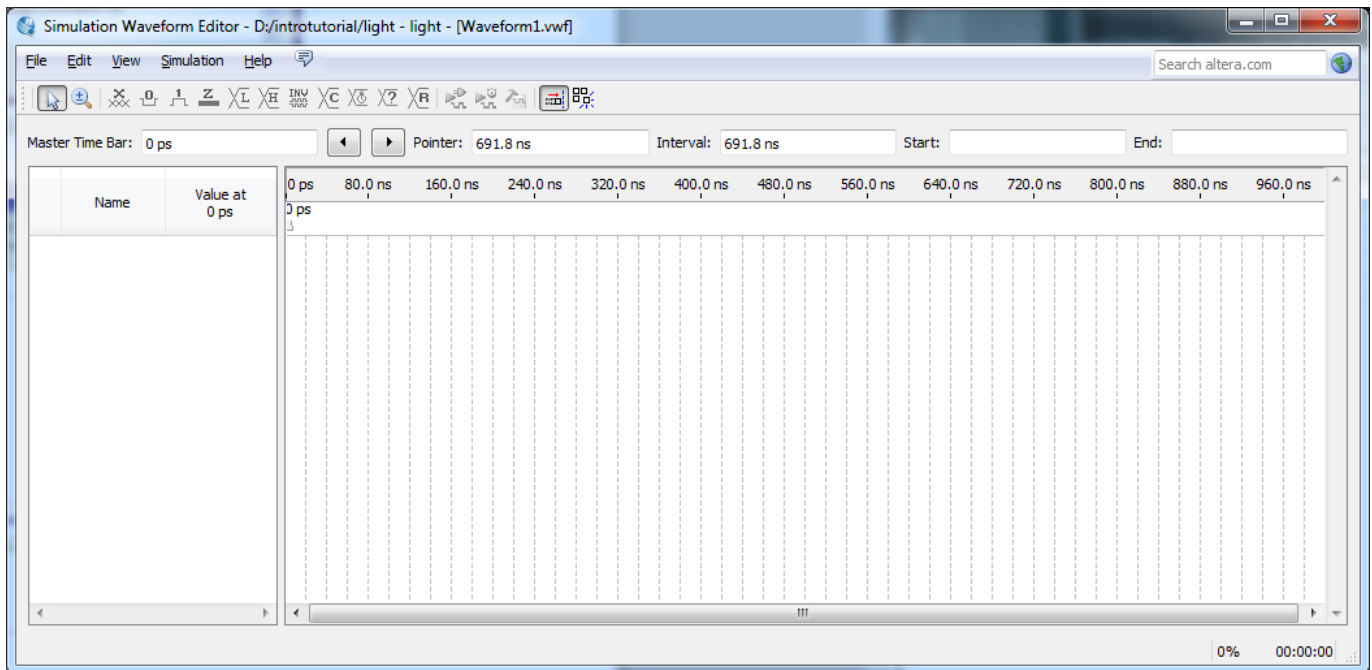
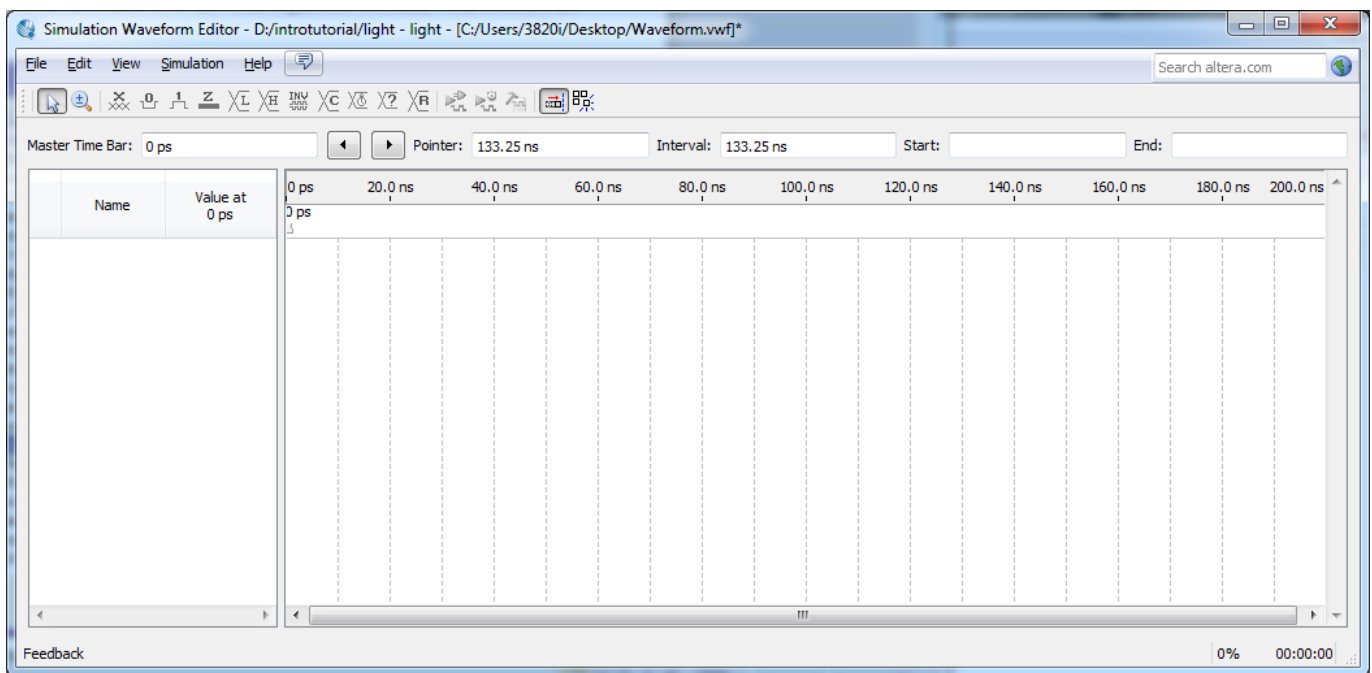

Figure 18: The Waveform Editor window
Figure 19: The augmented Waveform Editor window
- ii) The Waveform Editor window is depicted in Figure 18. Save the file under the name *light.vwf*; note that this changes the name in the displayed window. Set the desired simulation to run from 0 to 200 ns by selecting **Edit > End Time** and entering 200 ns in the dialog box that pops up. Selecting **View > Fit in Window** displays the entire simulation range of 0 to 200 ns in the window, as shown in Figure 19. You may wish to resize the window to its maximum size.